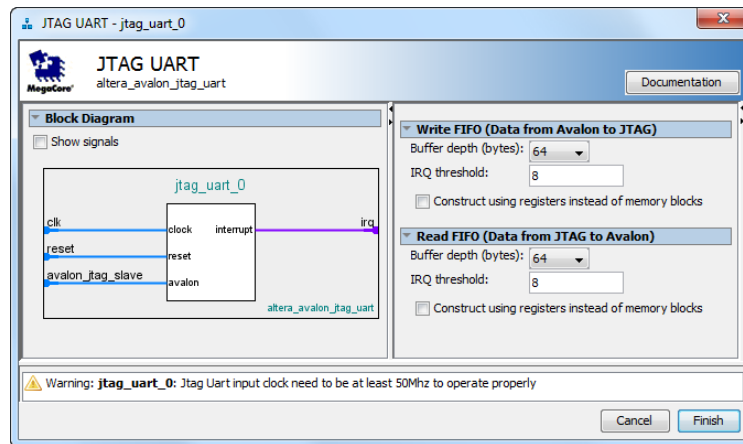

Figure 13. Define the JTAG UART interface.
- Select Interface Protocols > Serial > JTAG UART and click Add to reach the JTAG UART Configuration Wizard in Figure 13